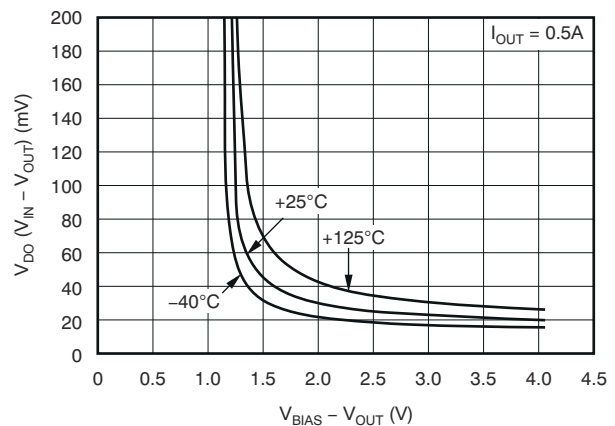

Figure 6-6. Dropout Voltage vs $(V_{BIAS} - V_{OUT})$ and Temperature (T_J)
- (1) Adjustable devices tested at 0.8 V; resistor tolerance is not taken into account.
(2) Dropout is defined as the voltage from V_{IN} to V_{OUT} when V_{OUT} is 3% below nominal.
(3) 3.25 V is a test condition of this device and can be adjusted by referring to Figure 6-6.